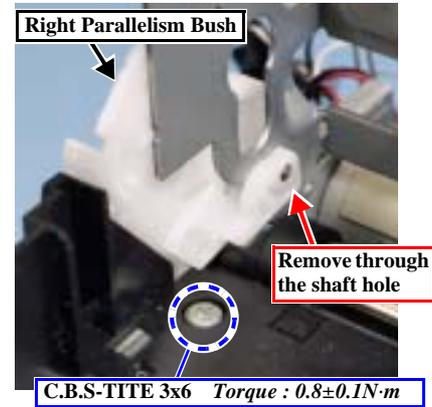

Figure 4-76. Removing the Paper Guide Front Assy 1
11. Remove the Right Parallelism Bush from the Left Frame. (Fig. 4-76)